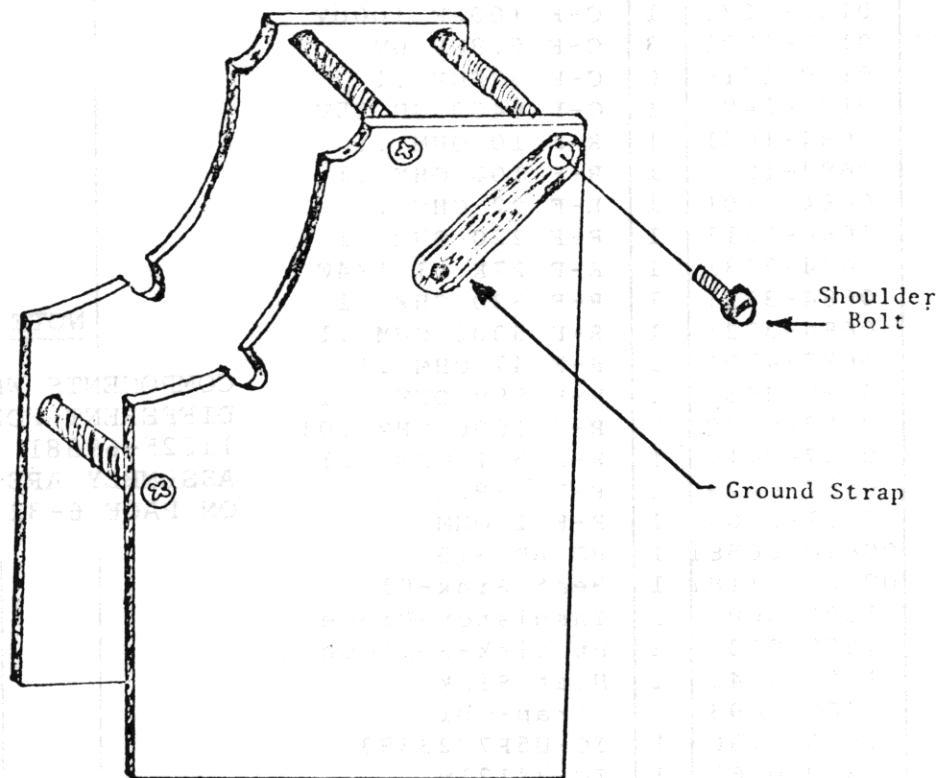

Figure 13.
7. Install ground strap between pressure wheel shaft and screw hole of step 6 with shoulder bolt (See Figure 13).